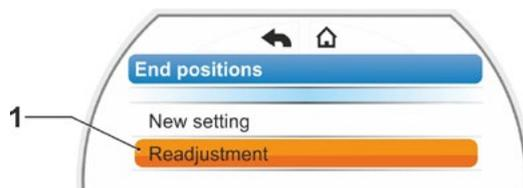
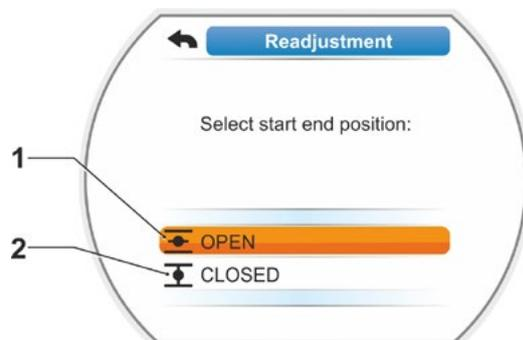

Fig. 1: End position readjustment
Fig. 2: Select end position
3. Confirm 'Readjustment' menu item (fig. 1, item. 1). Display changes to selection of end position to be readjusted (fig. 2).